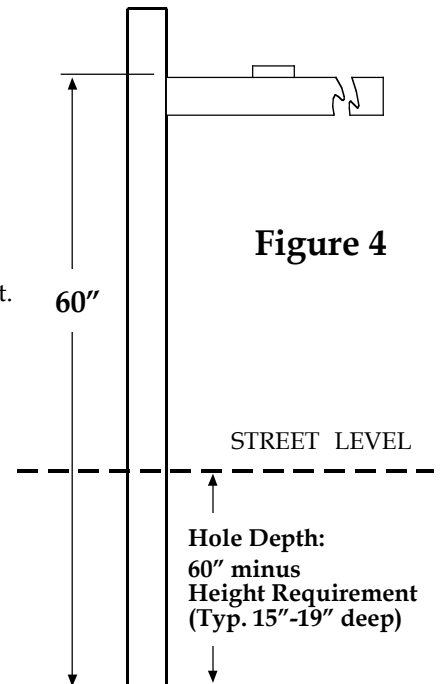

Figure 4
- 3) Dig holes 58" on center (45.332" for Triple Mounts). Determine depth of holes using the Post Office height requirement (X), subtracting the height from the top of the cross bar to the bottom of the post. I.E...60" - X = Hole Depth. (See Figure 4)